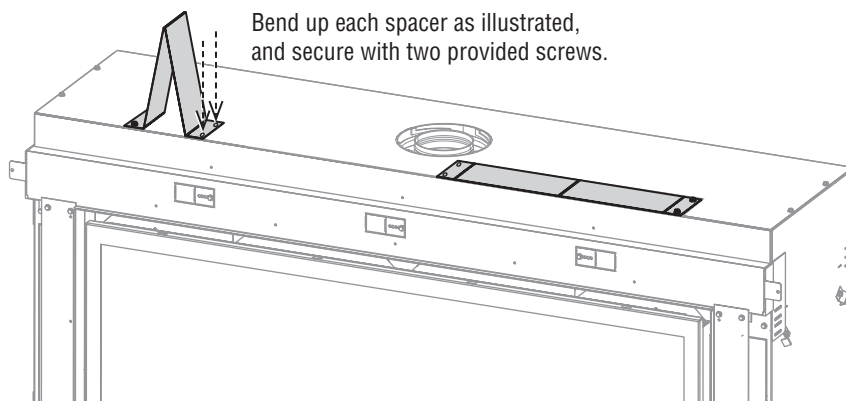

Figure 7-1
1. Assemble the top spacers (*Figure 7-1*).
Assemble **TOP SPACERS** before installing fireplace (Figure 7-1).